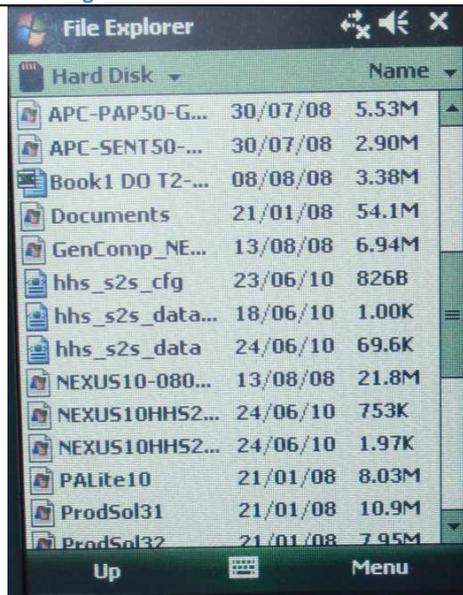

Figure 4 Find HHS2S-SETUP.CAP
- Go through installation process (Figure 4,5,6,7)